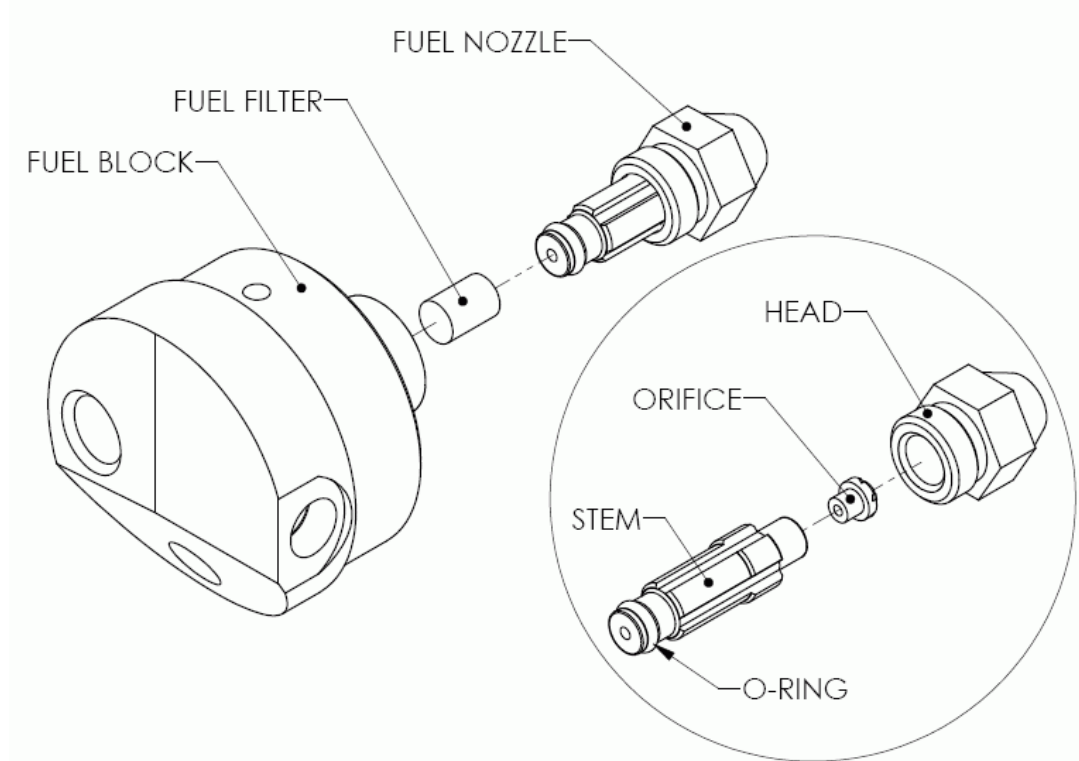

Figure 19: Fuel nozzle assembly
5. Unscrew the fuel filter (counter-clockwise) from the brass elbow on the inlet of the fuel pump (see Figure 19) using a 15/16" wrench (stabilize the fuel pump by holding the brass elbow using a 9/16" wrench).